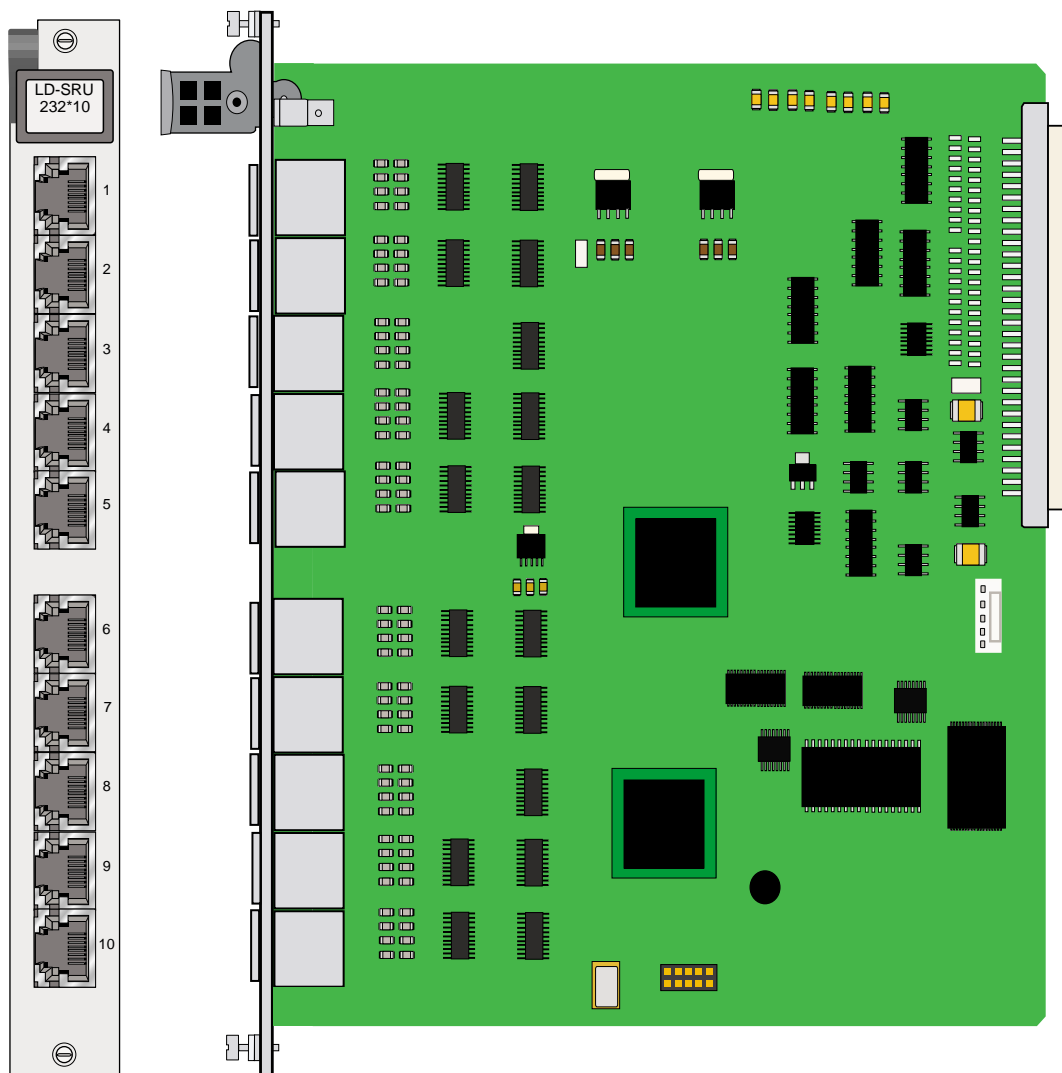
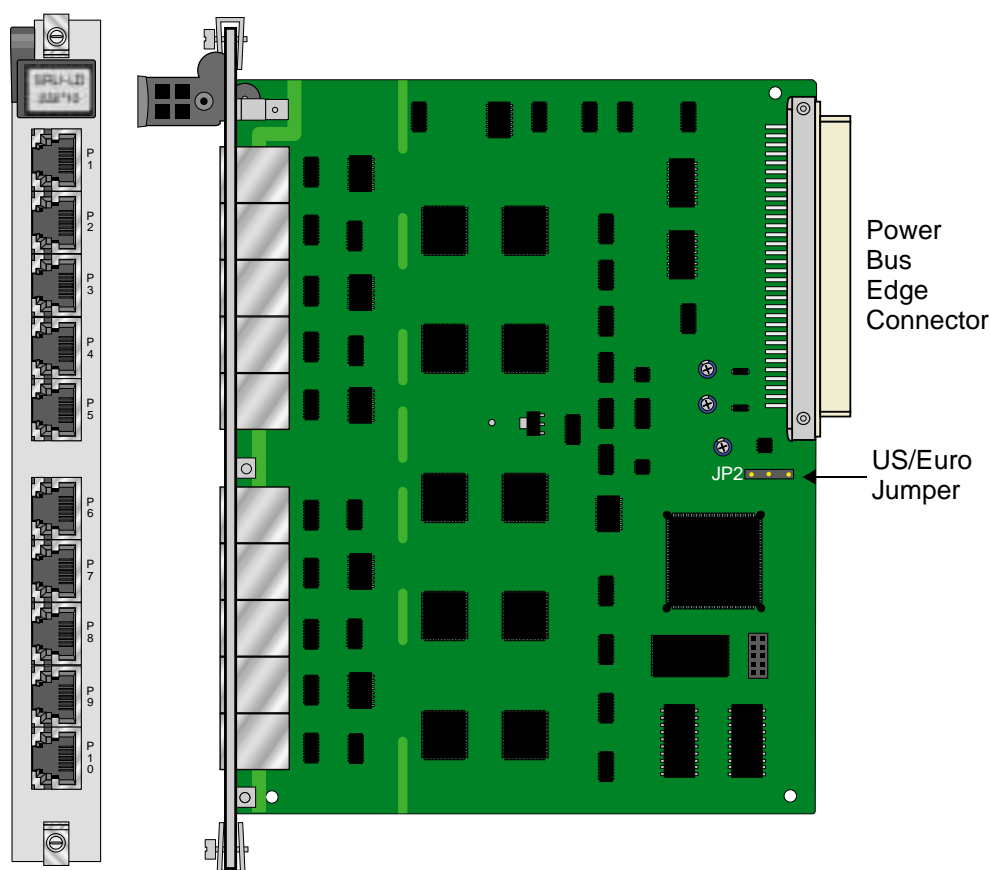

Figure 17-3.PRM-822570 LD-SRU board
Figure 17-4.PRM-822560 SRU-LD*10 Card Jumper Settings
2. Faceplate numbering. The PRM-822570 card has ports labeled 1 through 10, where the last number (10) has the digits side by side. The PRM-822560 card has port labeled P1 through P10, and the letters and numbers are all arranged vertically.
4. Faceplate fasteners. The PRM-822570 card has thumbscrews for fasteners, which are larger and can be turned with a phillips or straight-edge screwdriver. The PRM-822560 has smaller screws that can be turned only with a straight-edge screwdriver, and the faceplate itself has raised “dimples” where the screw is located. The PRM-822570 has no such “dimple”. See Figure 17-3 and Figure 17-4 for representations to the two cards.
The SRU-LD*10 Card has US/Euro jumpers or switches on its mainboard. JP2. See Figure 17-4.